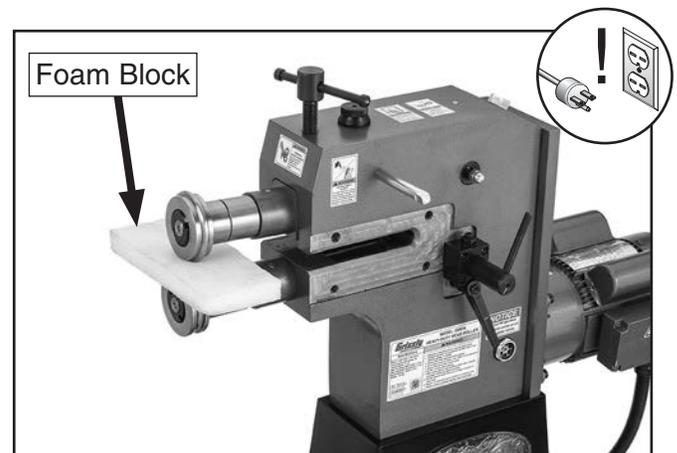

Figure 42. Upper mandrel supported with foam block.
2. Manually lift upper mandrel all the way and support it with a piece of foam or a wood block to prevent it from dropping during **Step 3** (see **Figure 42**).